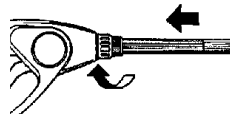

fig 2.
- 3.2.1. Insert the lance into the trigger assembly and twist to secure (fig 2).